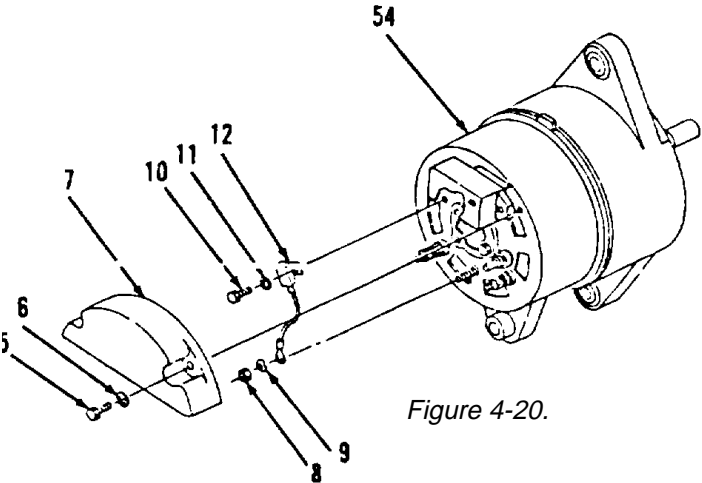

Figure 4-20.
- 3. Remove two screws (5), washers (6) and cover (7, Figure 4-20).